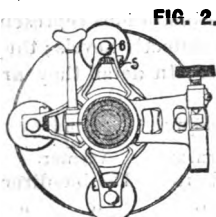

FIG. 2.
**Leveling Arms** (Fig. 1, Fig. 2 and Fig. 3). The Leveling piece is substantially constructed and allows ample shifting space. The arms are slotted and equipped with tension screws (Fig. 2, 5.) both to take up the wear and to provide against binding due to sudden change of temperature. The nickel silver Leveling Screws as well as the Clamp and Tangent Screws are cut on a precision lathe, insuring a thread, which, on account of its smoothness and uniformity, gives a perfect motion and long service. The center of the half ball joint is in the plane of the feet of the leveling screws; this prevents the binding of these screws when the instrument is leveled. All clamp and tangent screws are conveniently located, well protected, and out of the way. The heads of the clamp and tangent screws are differentiated so that "a touch tells".